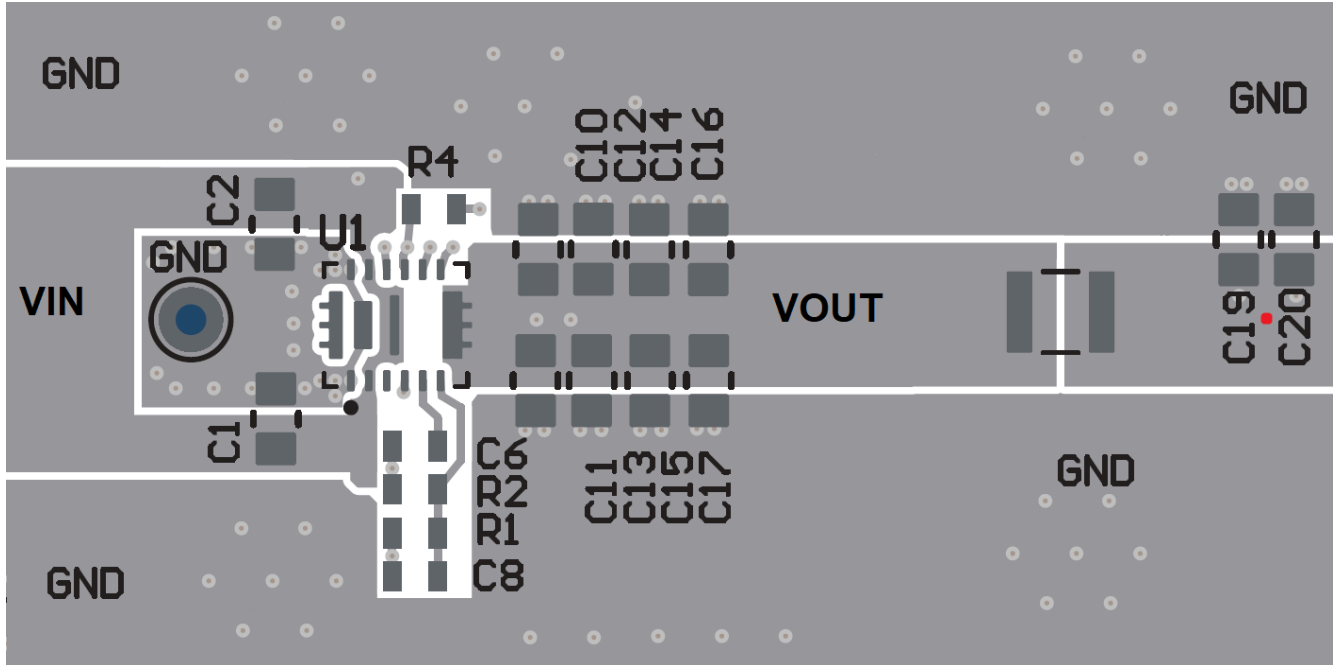

図 7-3. Recommended Layout for Design with Second L-C Filter
- Avoid placing the ferrite bead in the keep out region as shown in Figure 7-3
- See the recommended layout implemented on the EVM and shown in the EVM user's guide, TPS62916EVM Evaluation Module, as well as in Figure 7-3.